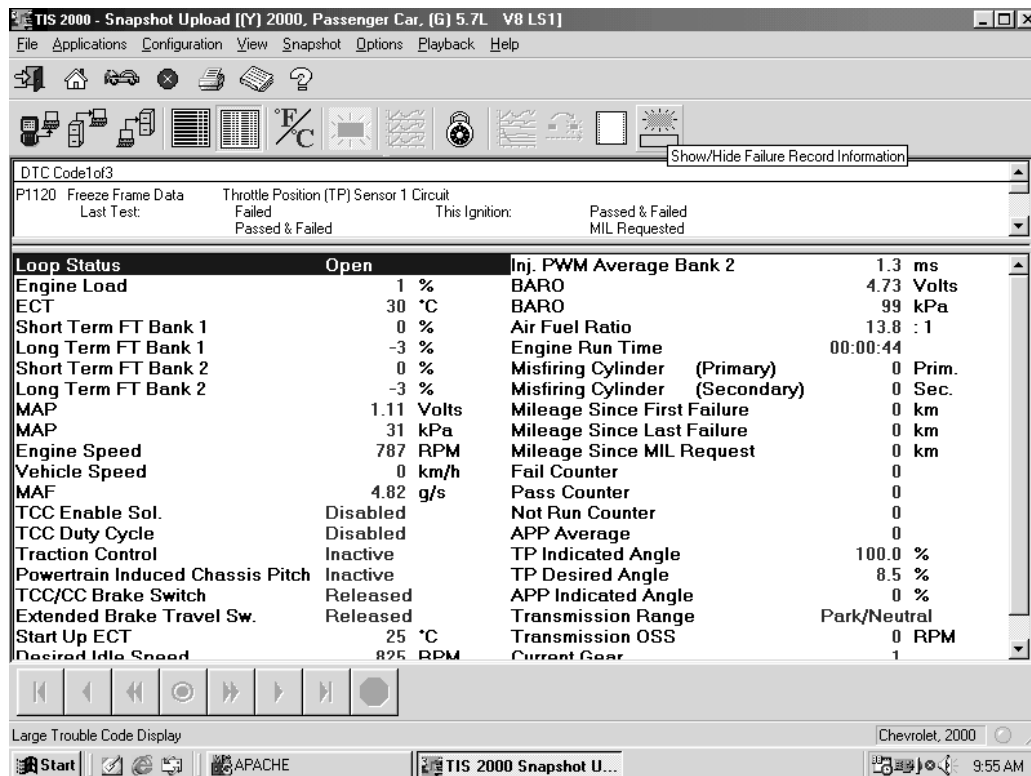

Figure I-81, Show/Hide Failure Record Information Screen
9. The user may toggle on/off the DTC(s) at the top of the screen in order to view only the freeze frame or fail record data by selecting the Show/Hide Failure Record Information icon (Figure I-81) on the toolbar. This icon is only active for the Capture Info Data Function.